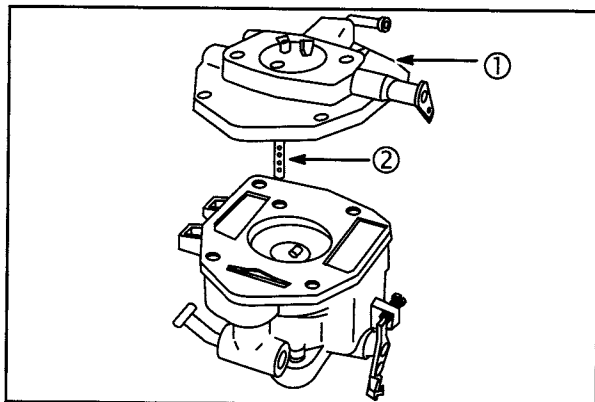

Fig. 78
1. Remove four screws and upper body (1), Fig. 78. Do not damage emulsion tube (2) in upper body.